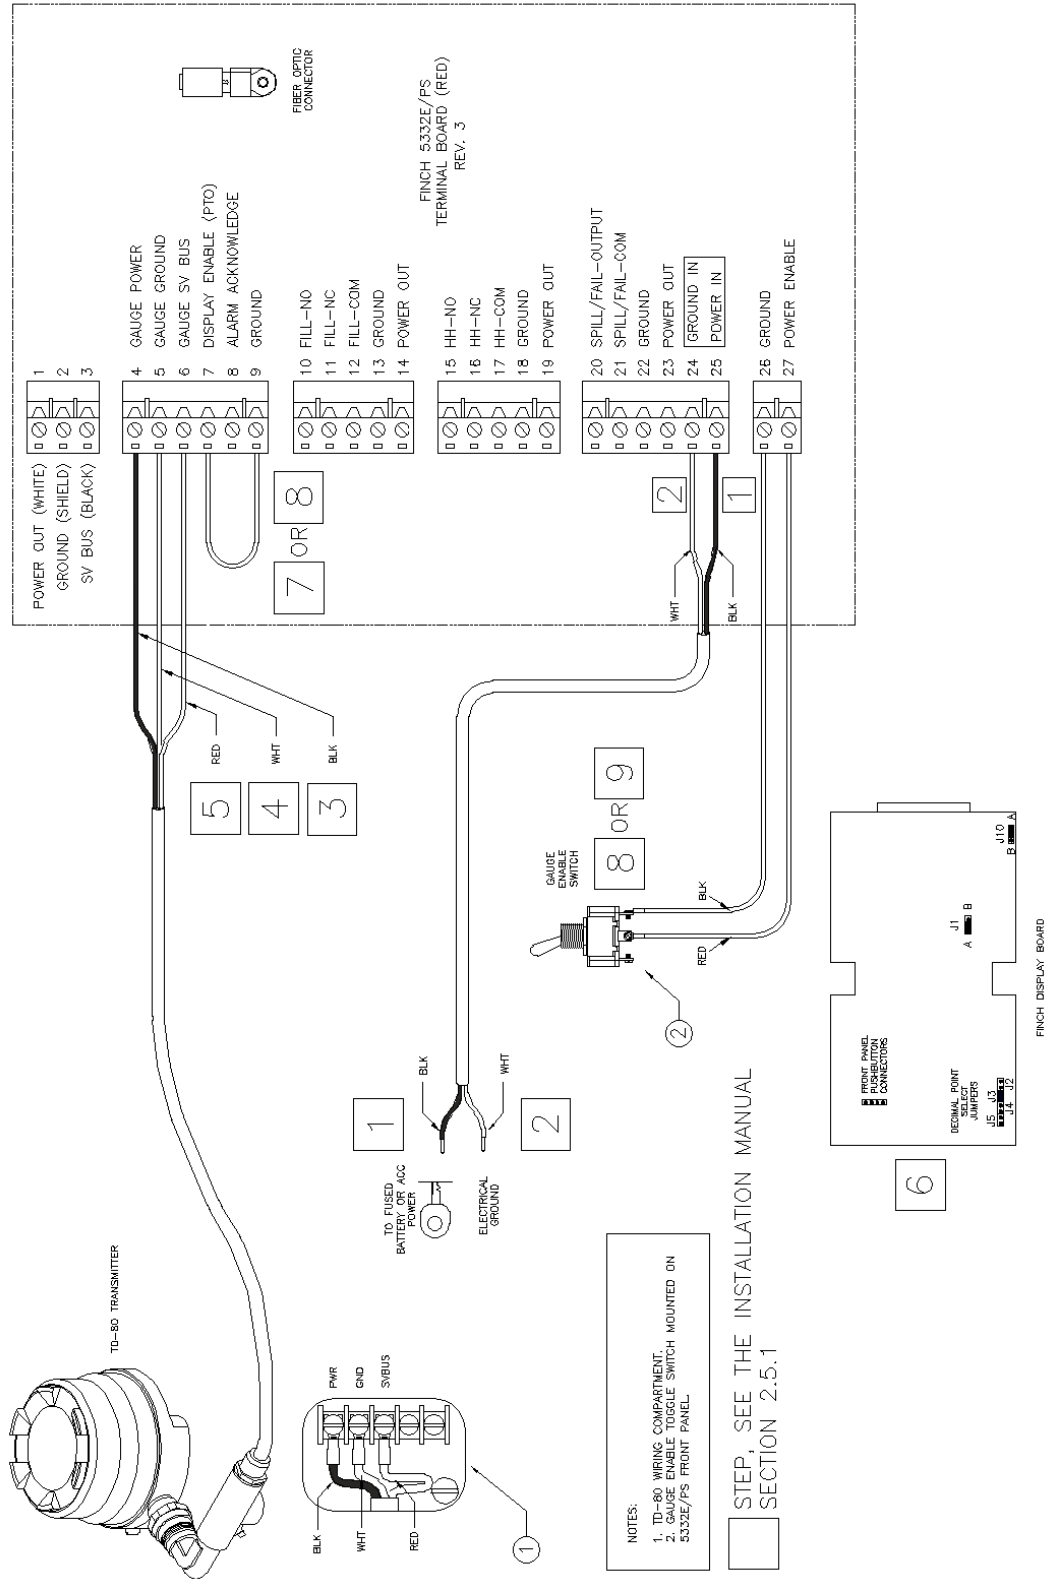

Figure 1: Basic System Wiring Diagram for Finch 5332E/PS External Display (Same as Figure 2-12 in TD80 Product Manual, TPM 001)
- h. Refer to Figures 1 and 2, within this document, for basic installation wiring diagrams and instructions.
Wiring steps for single TD80 and Finch Display. Refer to Figure 1 for Finch 5332E/PS (red board) installation.